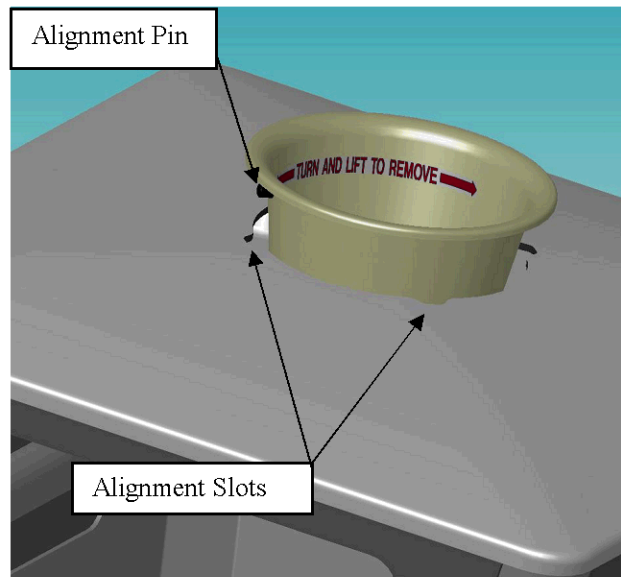

Figure 3 - Turn and lift bowl to remove and empty
2. The bowl has 2 pins which interlock with the litter lid. The bowl must be rotated until the pins line up with the slots in the lid. See Figure 3.